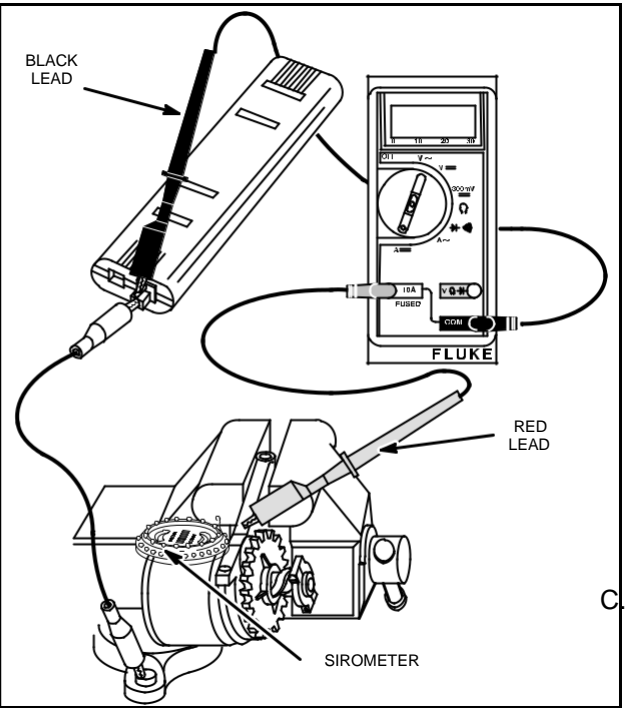

Fig. 654 – TESTING STARTER MOTOR
2. Connect the starter motor, battery and meter, as shown in Fig. 654.